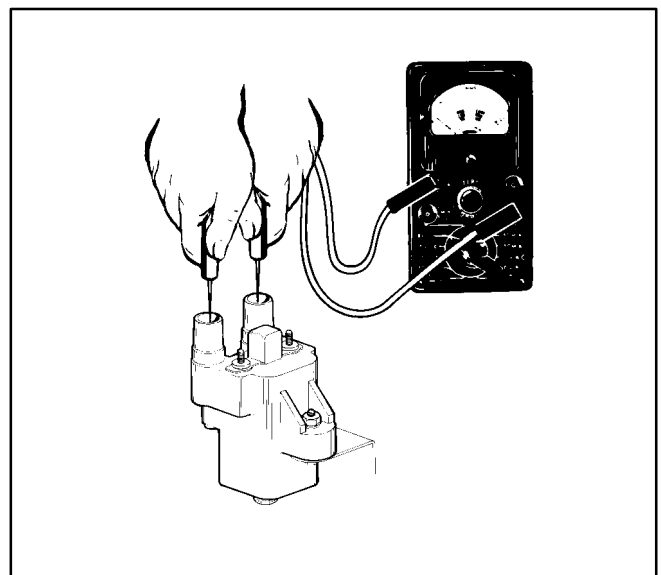

FIGURE 15. TESTING THE IGNITION COIL
6. Measure secondary coil resistance (across the spark plug cable terminals). Replace the ignition coil if secondary resistance is not between 10,000 and 40,000 ohms. See Figure 15.